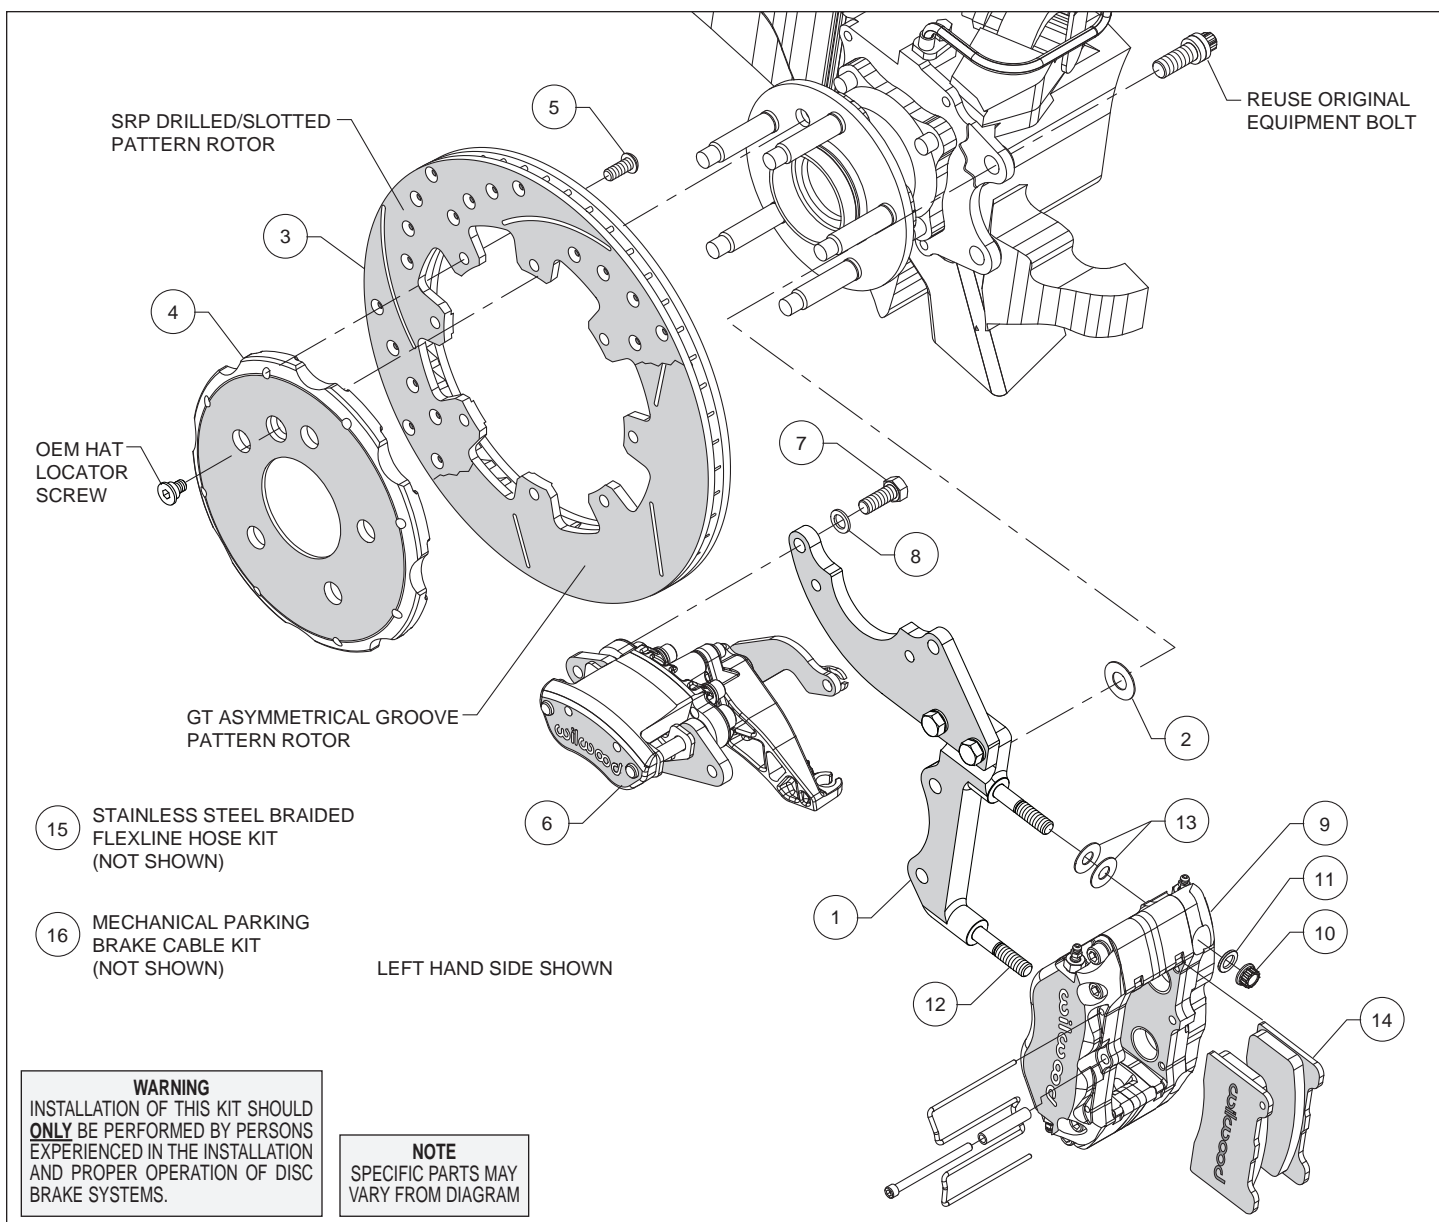

Figure 1. Typical Installation Configuration
Assembly Instructions (numbers in parenthesis refer to the parts list and Figure 1 on the preceding pages):
- The caliper mount bracket (1) should initially be installed with clean, dry threads on the mounting bolts. Orient the bracket as shown in Figure 1, and Photo 1, and install using OE caliper mounting bolts. Initially place one .033" thick shim (2) on each bolt between the bracket and upright, Figure 1. Temporarily tighten the mounting bolts. **NOTE: The bracket must fit squarely against the mount bosses on the upright.** Inspect for interference from casting irregularities, machining ridges, burrs, etc. Later, after the caliper alignment has been checked, the mount bolts will be secured using red *Loctite*® 271.
- Orient the rotor (3) and the hat (4) as shown in Figure 1 and Photo 2. Attach rotor to hat using bolts (5). Using an alternating sequence, apply red *Loctite*® 271 to the threads, and torque to 25 ft-lbs.
- Check that the caliper mounting bracket (1) is aligned parallel to the rotor (3), Photo 4. If not, adjust by adding or subtracting shims (2) on the upper bolt between bracket and upright.
- Lubricate the caliper mounting studs (12) with lightweight oil. Initially place two .035" thick shims (13) on each stud as shown in Figure 1 and Photo 5. Mount the caliper (9) onto the bracket (1) using lock nuts (10) and washers (11), Figure 1. Temporarily tighten the lock nuts and view the rotor through the top opening of the caliper. The rotor should be centered in the caliper, Photo 6. If not, adjust by adding or subtracting shims (2) between the bracket and the mounting bosses. Adjust the offset using the same amount of shims on each of the two mounting bolts to keep the bracket aligned parallel to the rotor. Once the caliper alignment is correct, remove the bracket mounting bolts one at a time, apply red *Loctite*® 271 to the threads, and torque to OE manufacturer's specifications.
- Insert the brake pads (14) into the caliper with the friction material facing the rotor (3), as shown in Figure 1 and Photo 7. Check that the top of the brake pad is flush with the outside diameter of the rotor, Photo 8. If not, adjust by adding or subtracting shims (13) between the caliper and the bracket. After the caliper pad height is set, torque the caliper lock nuts (10) to 30 ft-lb. Secure the pads in place using the pad clip retainer as well as the center bridge pad retainer tube, bolt, and locknut, Photo 9. The locknut should be snug without play in the bolt or tube. Be cautious not to over tighten.
- Mount the parking brake caliper (6) onto the top section of the caliper mounting bracket (1) using bolts (7) and washers (8), as shown in Figure 1 and Photo 10. Apply red *Loctite*® 271 to bolt threads, and torque to 30 ft-lb.